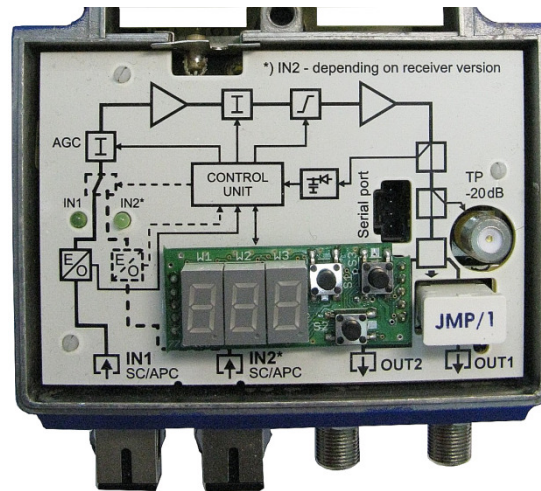

Fig. 8.2. View on the MOB-729 after installation of the C-729 local monitoring module.
- Fig. 8.2. View on the MOB-729 after installation of the C-729 local monitoring module.